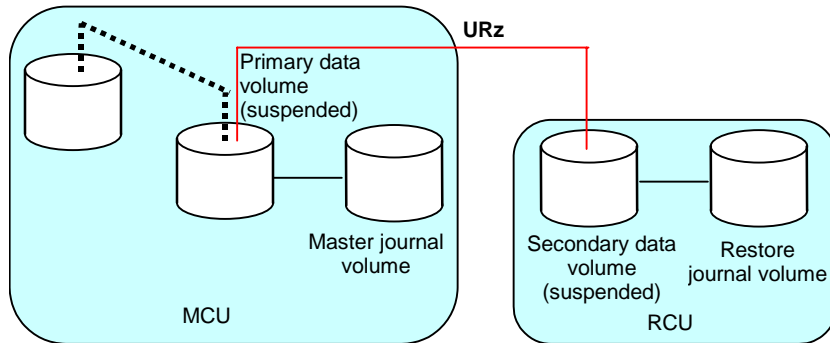

Figure 3-15 Restoring a Siz S-VOL - Step 4
4. Execute the Business Continuity Manager **YKSUSPND** command on the URz pair to suspend the pair (see Figure 3-15).